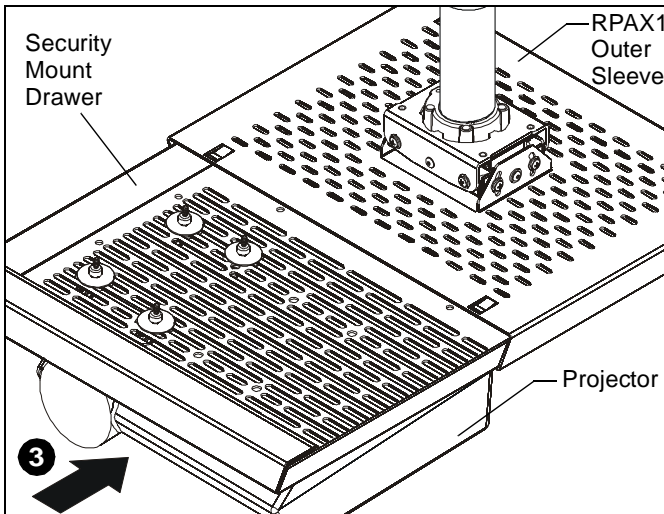

Figure 9
3. Slide the security mount drawer into the RPAX1 outer sleeve. (See Figure 9)